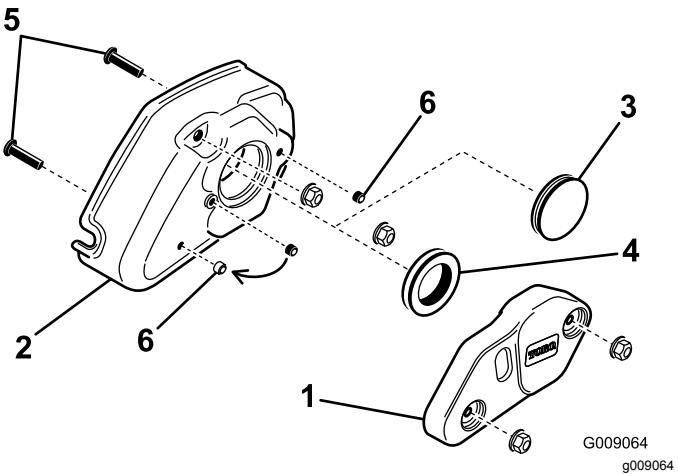

Figure 21
1. Groomer cover 2. Cover mounting nut (2)
2. Remove the 2 flange nuts (5/16 inch) securing the groomer weight to the groomer cover and remove the weight (Figure 21).
3. Remove the solid grommet from the cover and replace it with the rubber grommet ring included with the groomer (Figure 21).
4. Remove the 2 screws (5/16 x 1-1/4 inch) threaded into the cover (Figure 21).
5. Remove the setscrew from the center hole in the groomer cover (Figure 21).